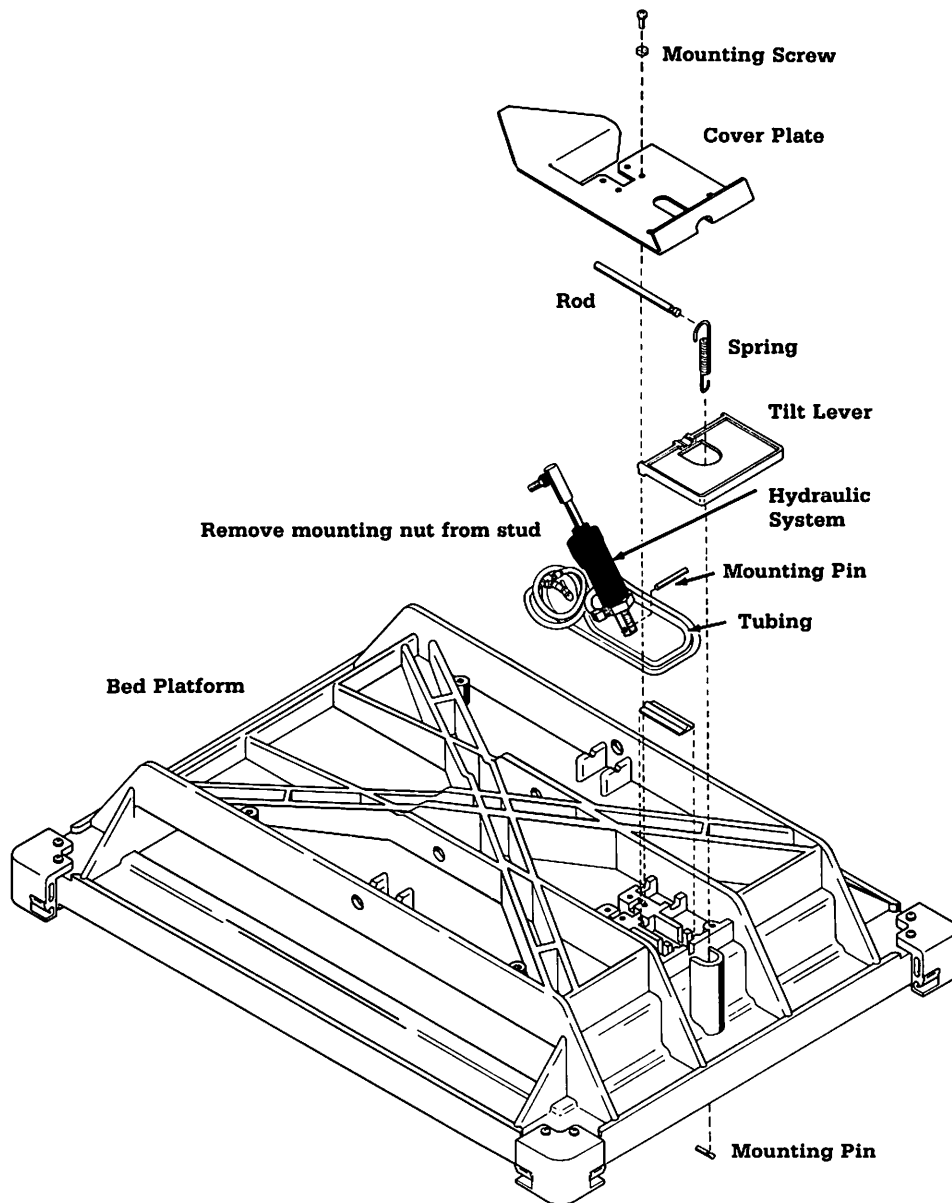

Figure 5-13. Hydraulic System Assembly.
E. Hydraulic System Removal (Figures 5-13 and 5-14)
F. Hydraulic System Installation (Figures 5-13 and 5-14)